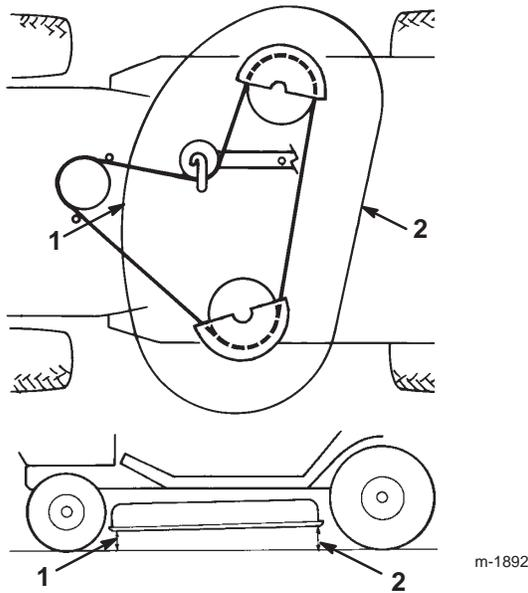

Figure 51
- Check the front-to-rear slope by measuring between the bottom of the mower (front center and rear center) and the flat surface (Fig. 51). If the front is not within a range of 1/8 to 3/8 in. (4 to 11 mm) lower than the rear, an adjustment is required.
- After adjusting both eyebolt locknuts evenly, check the front-to-rear slope again. Continue adjusting the eyebolts until the front blade tip is 0 to 3/8 in. (0-9 mm) lower than the rear blade tip (Fig. 51).